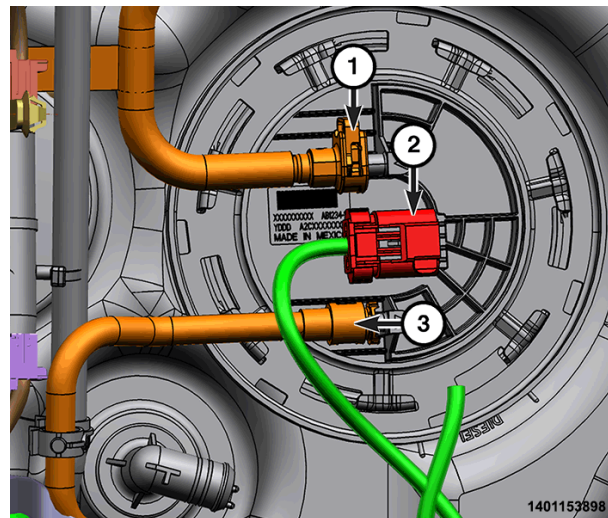

Figure 37 – Fuel Pump Module Connections (Sales Code NFT Shown)
13. Disconnect the fuel pump module wire harness connector (2) (Figure 37).
14. Disconnect the fuel supply (1) and return line (3) quick-connect fitting at the fuel pump module (Figure 37).
34. Connect the fuel supply (1) and return (3) line quick connect fitting to the fuel pump module (Figure 37).
35. Connect the fuel pump module wire harness connector (2) (Figure 37).